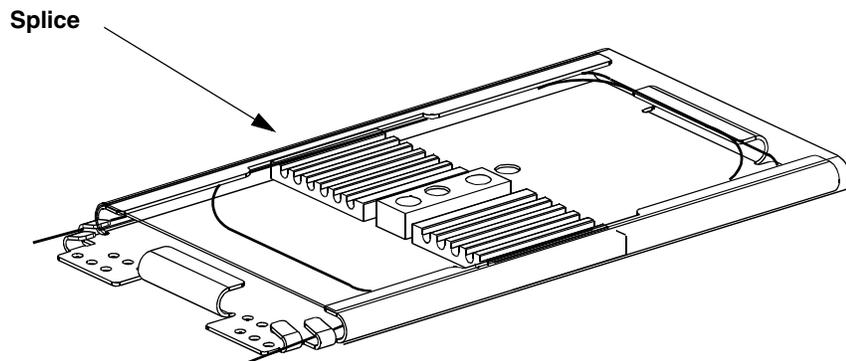

Fig. 2
- 3.3 Routing Fiber - Follow instructions for cable in use when removing cable sheath. Strip outer sheath to expose enough fiber for the application. The length will vary depending on the enclosure. Fig. 2 shows the recommended fiber routing for the FST6.